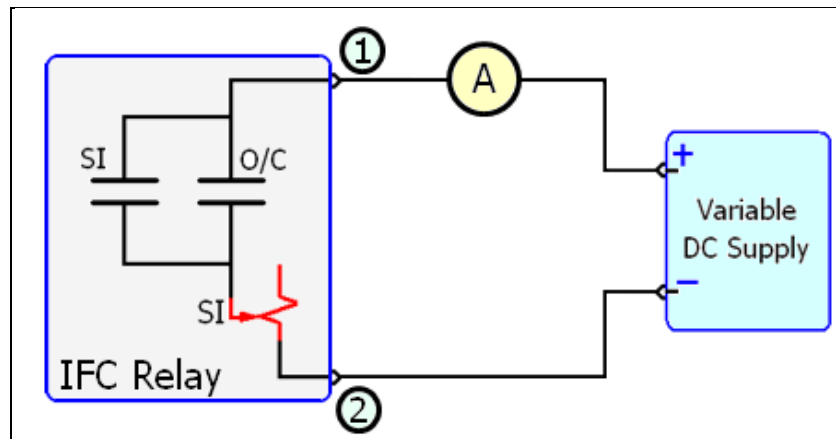

Fig. 2-2 Testing the Seal-in Unit
1. Connect the circuit shown in Fig. 2-2.